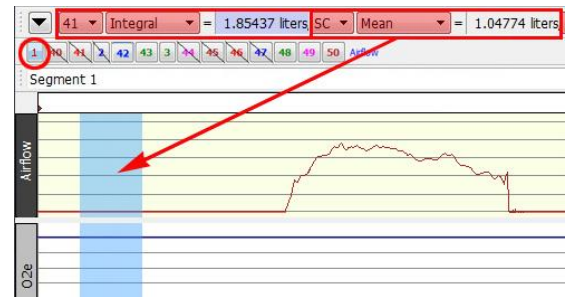

Figure 7
8. Using the %I+cursor, select an area of baseline (no flow) data as shown in Figure 7 and verify that the %Mean+measurement is close to zero (ideally less than 0.01 Liters/sec). If there is excessive offset, repeat steps 1 through 8.